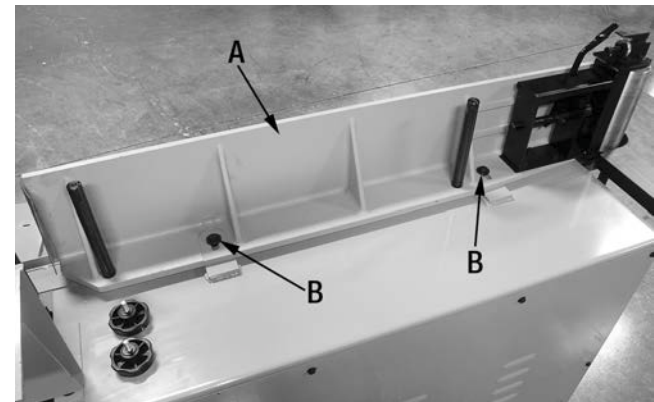

FIGURE 10
The steel platen (A) Fig.10 should be positioned 1/8" to 1/4" in front of the drive roller and the idle roller. The steel platen is set properly at the factory but after time an adjustment may be needed. To adjust the position of the steel platen:
- 2) Loosen the two hex. bolts (B) at the rear of the steel platen.
- 4) Retighten the two hex. bolts (B) at the rear of the steel platen and reinstall sanding belt.